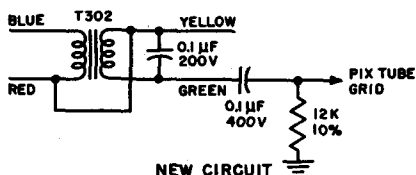

Fig. 13 — Arvin
**Eliminating white horizontal lines at maximum brightness and contrast (see Fig. 13).**